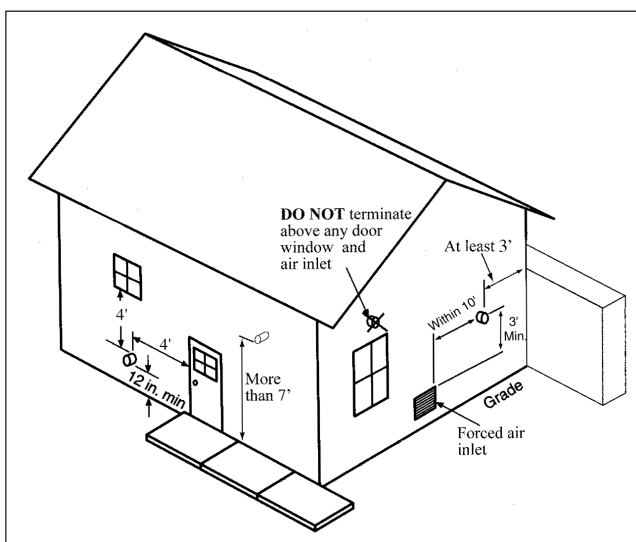

Fig. 15 - Termination Clearances of Category IV System
5. The vent termination must also maintain the following clearances; as shown in *Fig. 15 below*.
5. The vent termination must also maintain the following clearances; as shown in *Fig. 15 on page 24*.